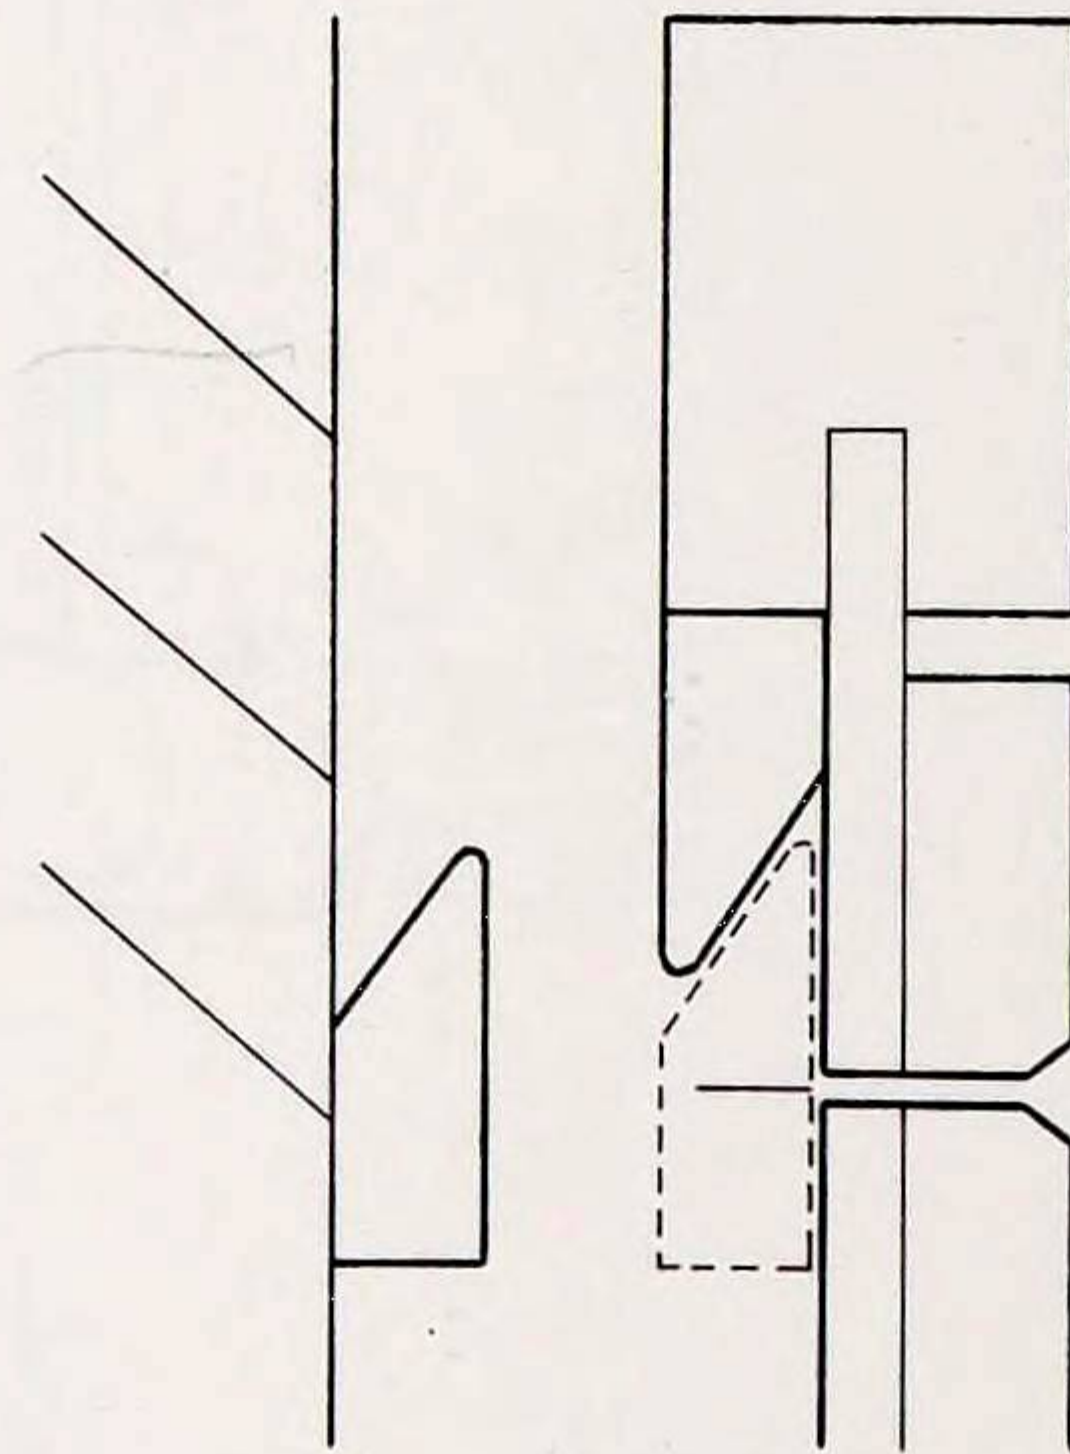

Fig. 2 Mounting battens
2. With that structure complete, make the mounting battens and fit the top one into the frame with glue and screws. The other one will be fixed to the wall. You can secure the cabinet by putting a couple of screws through the front face into the batten (Fig. 2).